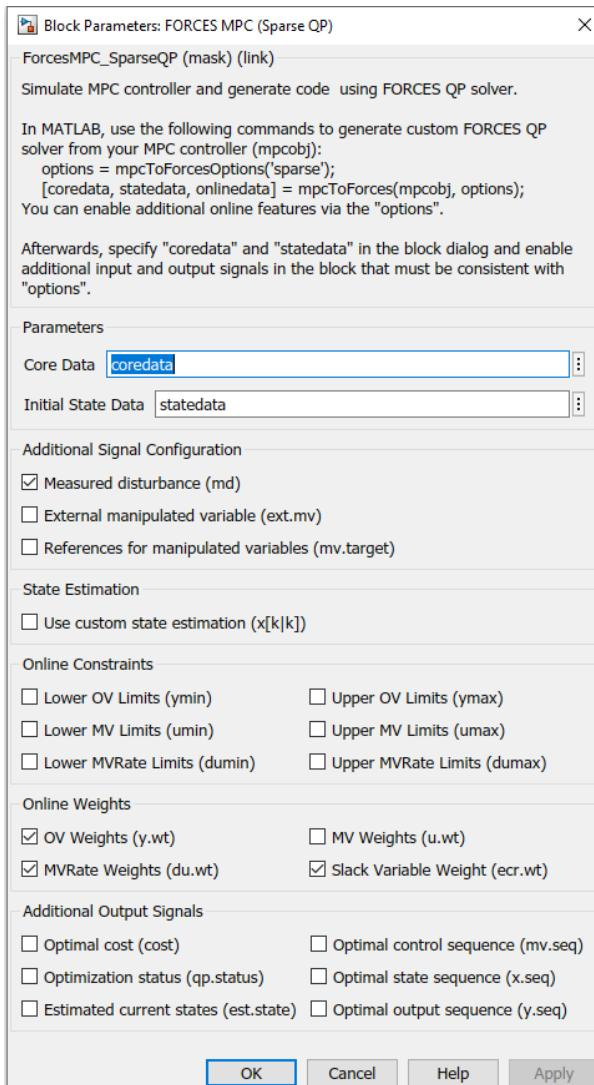
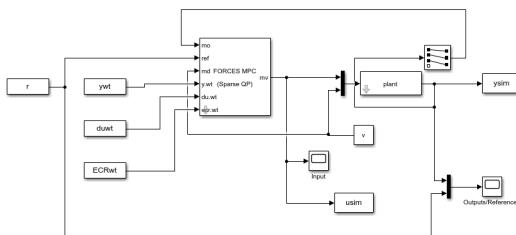

Figure 6.4: FORCESPRO MPC block configuration
Figure 6.5: FORCESPRO MPC block integration in a Simulink model
The FORCESPRO sparse solvers can be used inside Simulink to deploy to dSpace MicroAutoBox II. All features of the MATLAB plugin are available through this Simulink block, namely measured disturbances, external manipulated variables, references for manipulated variables, custom state estimation as well as online weights and constraints. Configuring the block is done via the user interface shown in Figure 6.4 below.
- 2) Note that the option *ForcesTargetPlatform* needs to be specified. The structures *coredata* and *statedata* needed by the FORCESPRO solver are then provided to the Simulink block via the window shown in Figure 6.4. The integration of the FORCESPRO MPC block in a Simulink model is shown in Figure 6.5 below.